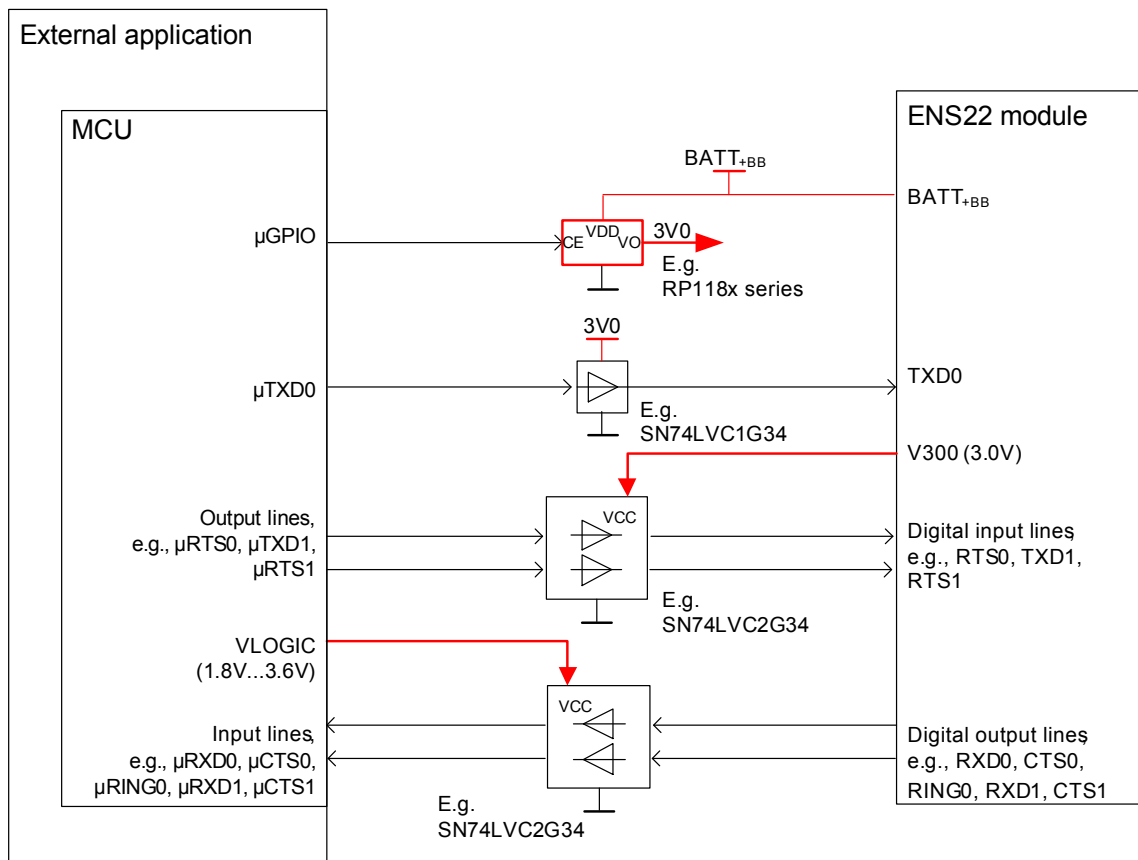
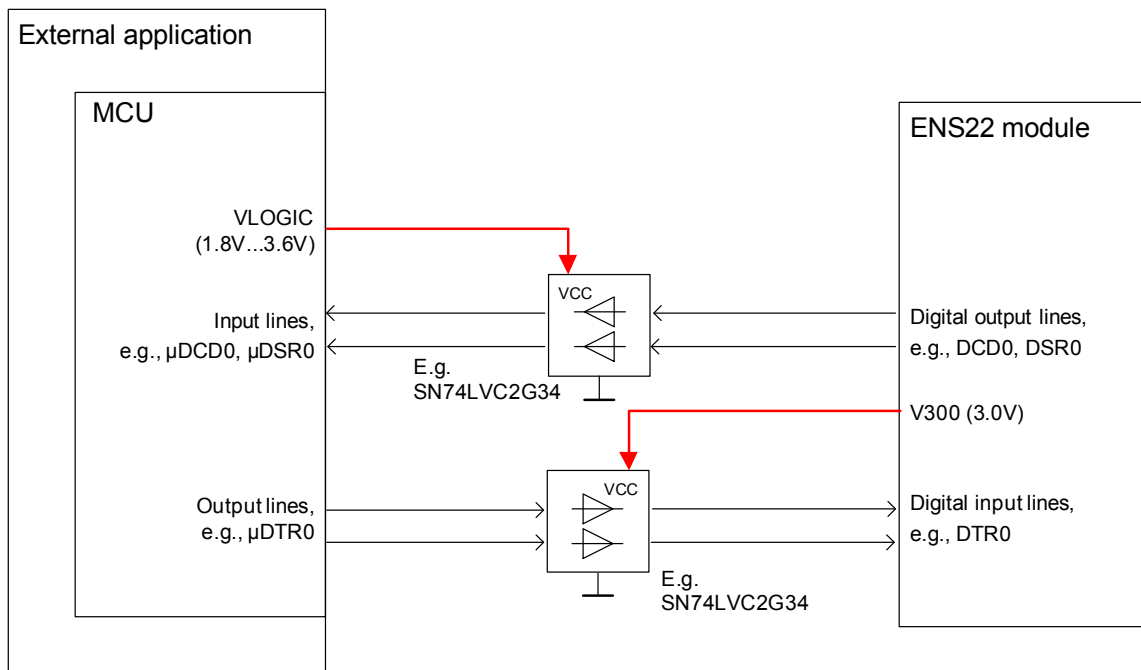

Figure 20: Sample level conversion circuit for Table 8 signals
Figure 21: Universal level conversion circuit for Table 9 signals
Table 9 contains additional signals which need a level conversation. See Figure 21.
- If the IO domain of the application is not 3V the signals mentioned in Table 8 and Table 9 need level conversion. See Figure 20 or Figure 21.
Figure 20 illustrates the possible design of a 3V0 LDO, e.g. RP118x with 0.2uA (typical) for quiescent dissipation, and the switching state of LDO is controlled by MCU. The power supply voltage of TXD0 (ASC0's TXD signal line) in Figure 20 must be supplied by an external 3V LDO because in firmware update mode V300 is powered off. Do not use V300 related functions as the enablement of level conversion, e.g. power indicator (see Section 2.1.8.1).
Note: Even if the power supply voltage of MCU is 3V, the level conversion circuit is recommended for preventing back-feeding of Table 9 pins. Power supply of digital input lines must be V300. Figure 21 shows an universal circuit that is not optimized for ultra-low current consumption.